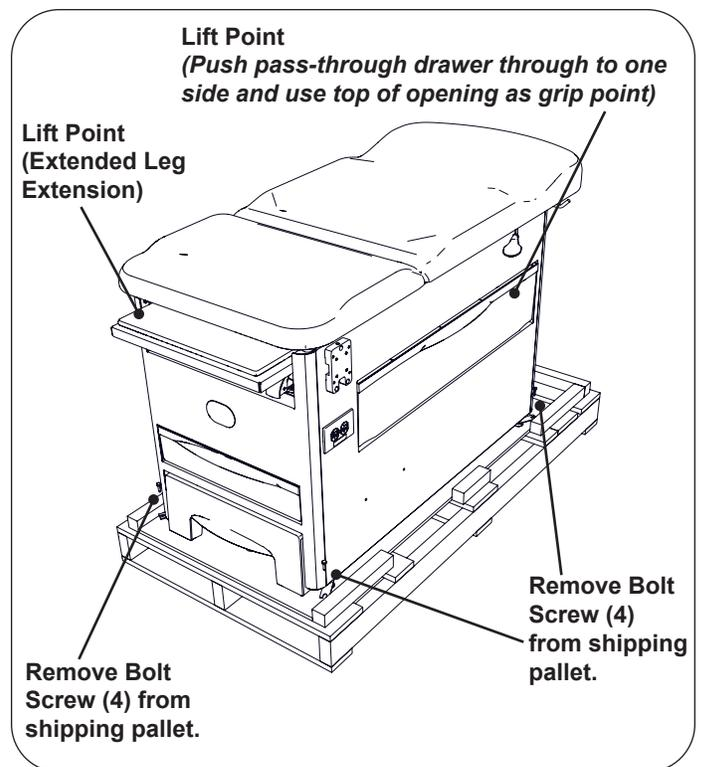

Figure 3. Table Lift Points
- To avoid damaging the table lift only at points indicated in Figure 3.
2. Unbolt the table from the shipping pallet by removing the 4 bolt screws from the pallet with a 1/2" socket wrench and remove the shipping bracket. See Figure 3.
4. Remove the table from the shipping pallet lifting at the correct lift points indicated in Figure 3. This requires two people to lift the table. The leg extension may be used for lifting.